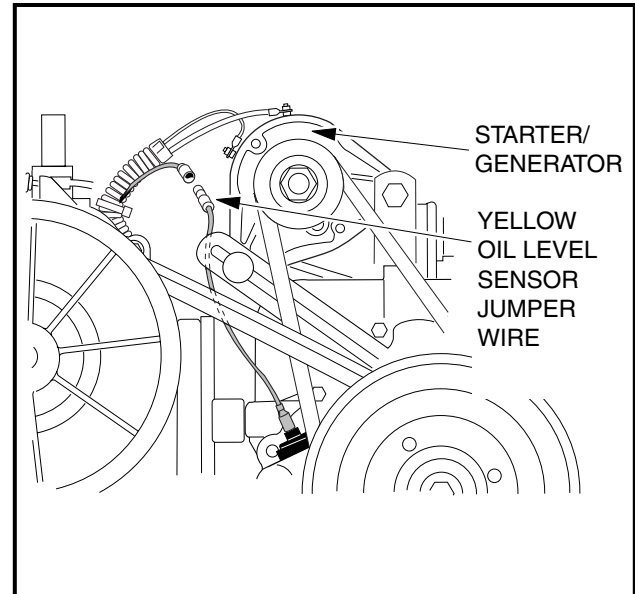

Figure 16-19 Oil Level Sensor Jumper Wire
- 5.13. Disconnect the engine oil level sensor wire (18-gauge yellow) at the bullet connector just to the rear of the starter/generator (**Figure 16-19, Page 16-10**).